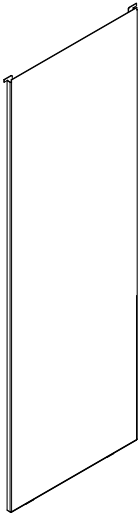
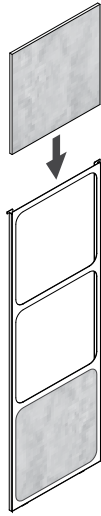

Figure 17.1
Figure 17.2
Your appliance ships with two different side options, one is a solid side panel (Figure 17.1) and tile side panel (Figure 17.2). There are two of each and no left or right side, these can be changed at anytime.
- Stack non-combustible material tiles in tile frame as shown in Figure 17.2.